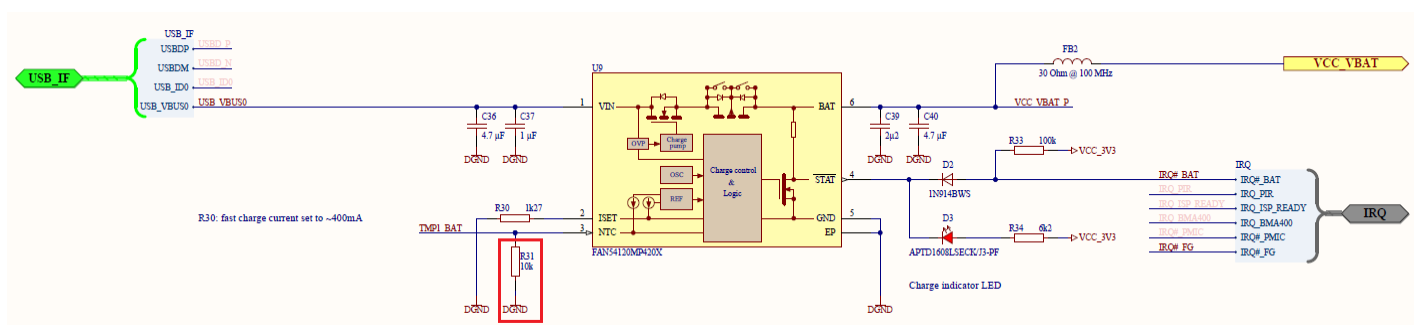

Fig.8 R31=10k assembled by default in order to emulate NTC temperature sensor, normally placed close to the battery
2. FAN54120 requires for its operation the temperature sensing composed of NTC temperature sensor. As the battery isn't part of the delivery, for proper operation of the circuit, 10k resistor in place of R31 provides emulated function (Fig.8).